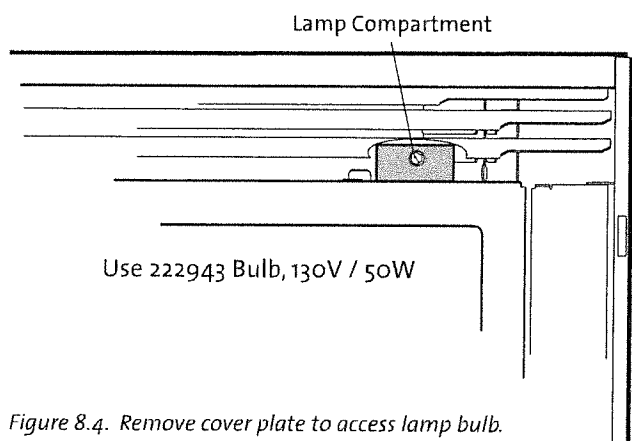

Figure 8.4. Remove cover plate to access lamp bulb.
1. Remove lamp compartment cover plate. See fig. 8.4.